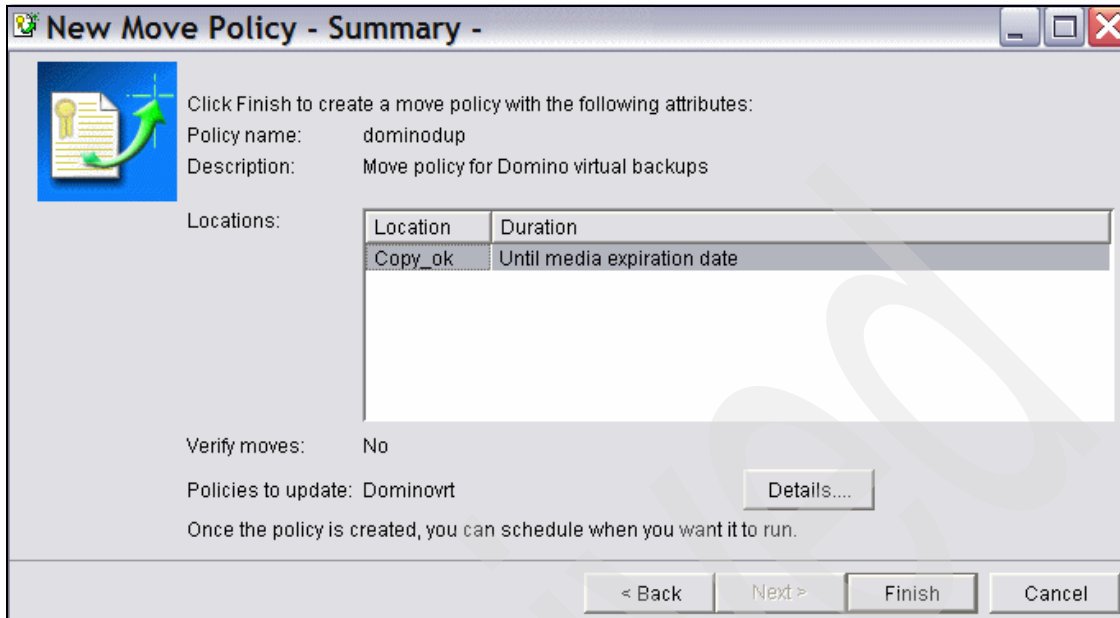

Figure 5-50 BRMS virtual move policy, summary
8. In the Summary window shown in Figure 5-50 on page 238, click **Finish**.